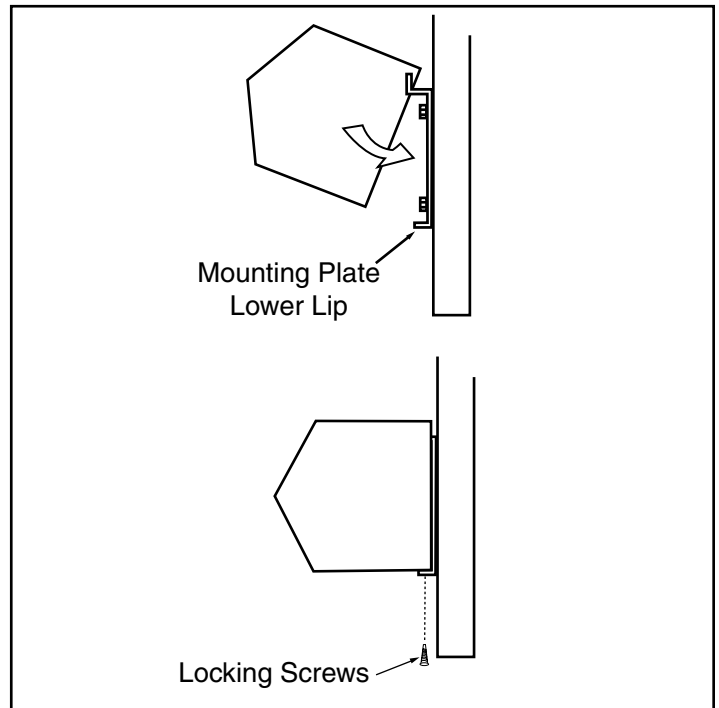

FIGURE 7
- a. Raise the air curtain over the door (air discharge nozzle facing down) and on to the mounting plate. First, tilt the unit upward matching the rectangular openings to the “Z” lip on the mounting plate. **See Figure 7.**
- c. After the air curtain is securely attached to the mounting plate, re-install the two (2) locking screws at the bottom corners. **See Figure 7.**